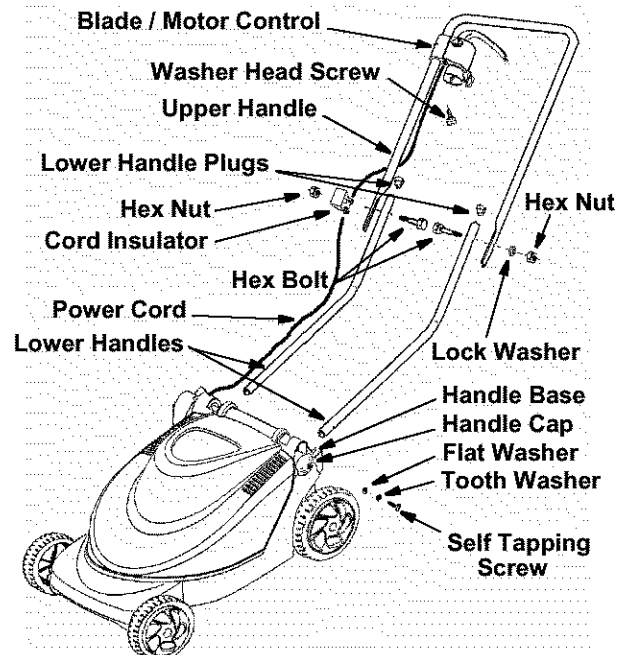

Figure 2
- Using one of the two longer self tapping screws from the hardware pack, insert the screw through the tooth washer, flat washer, and the handle cap as shown in Figure 2.
- Once both lower handles are installed, insert the lower handle plugs into the upper ends of the lower handles as shown in Figure 2.
- Standing behind the lawnmower with the upper handle, make certain the two holes that will hold the blade / motor control are on the right hand side. See Figure 2 for proper alignment of upper handle.
- Refer to Figure 2 for proper alignment of hardware and handles.
- Holding the blade / motor control, which is attached to the mower, route the power cord as it is shown in Figure 2 along the right side of the handle.
- Mount the blade / motor control to the upper handle by inserting its two pedestals into the two holes in the upper handle. Refer to Figure 2 for correct positioning on the upper handle.